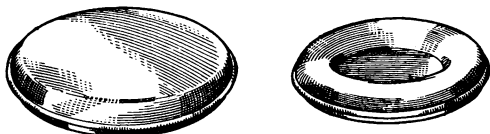

Fig. 10—Two types of sandbag, the round and the ring. They are leather covered.
- 3 sandbags or cushions of various sizes (including ring and round) (Fig. 10),
*Sandbags* : These are circular pads made of leather and filled very tightly with fine sand. They are available in different sizes and also in the form of rings, and are used to place the work on so that it may be turned easily. The ring type is used for bowls or can act as a seating for another ordinary type sandbag when one is placed on another to raise the level of the work. They are illustrated in Fig. 10.